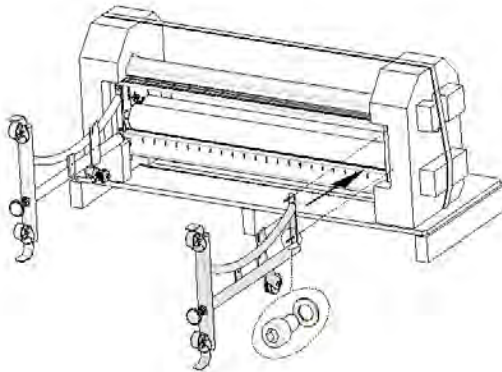

Figure 3
- Mount the RH-part of the stand onto the laminator as shown in figure 3. Use the serrated washers and the socket screws M6x16.